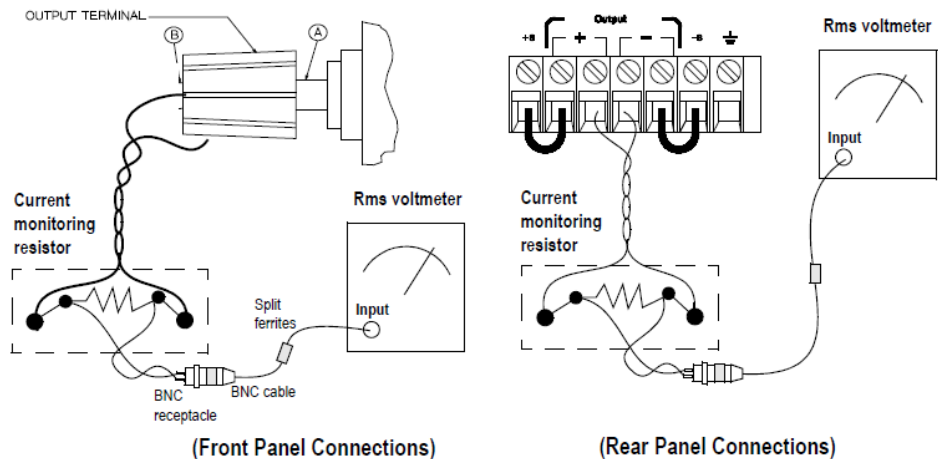

Figure 8-5 CC PARD (ripple and noise) connections
For better measurement results, it is recommended to make the connection between the BNC receptacle and the output terminals as short as possible, and to use the recommended split ferrites with the BNC-to-BNC cable as shown in Figure 8-5.
- 1 Turn off the power supply and connect the output to be tested as shown in Figure 8-5 with the current monitoring resistor 0.2Ω (R_{M2}) across output terminals. Connect an rms voltmeter across the current monitoring resistor as shown in Figure 8-5.